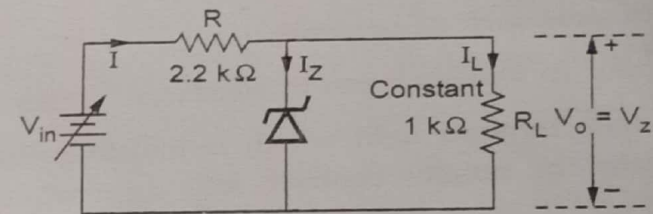

Fig. Q.6.1
Q.6 For a zener regulator shown in the Fig. Q.6.1, calculate the range of input voltage for which output will remain constant. $V_Z = 6.1 \text{ V}$, $I_{Zmin} = 2.5 \text{ mA}$, $I_{Zmax} = 25 \text{ mA}$, $r_Z = 0 \Omega$